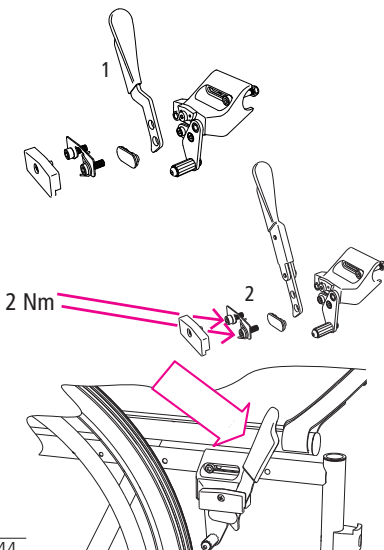

Fig. 44
1. Remove the standard brake lever completely, as shown in the diagram (1, Fig.44).
2. Attach the brake lever extension to the chair (2, Fig. 44) in the reverse order.